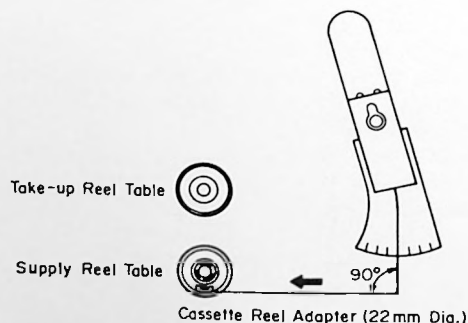

Fig. 4-4 Rewind Torque Measurement
1. Repeat the 4-3 procedure, but use the Supply Reel Table and Rewind mode for measuring the rewind torque. (See Fig. 4-4)